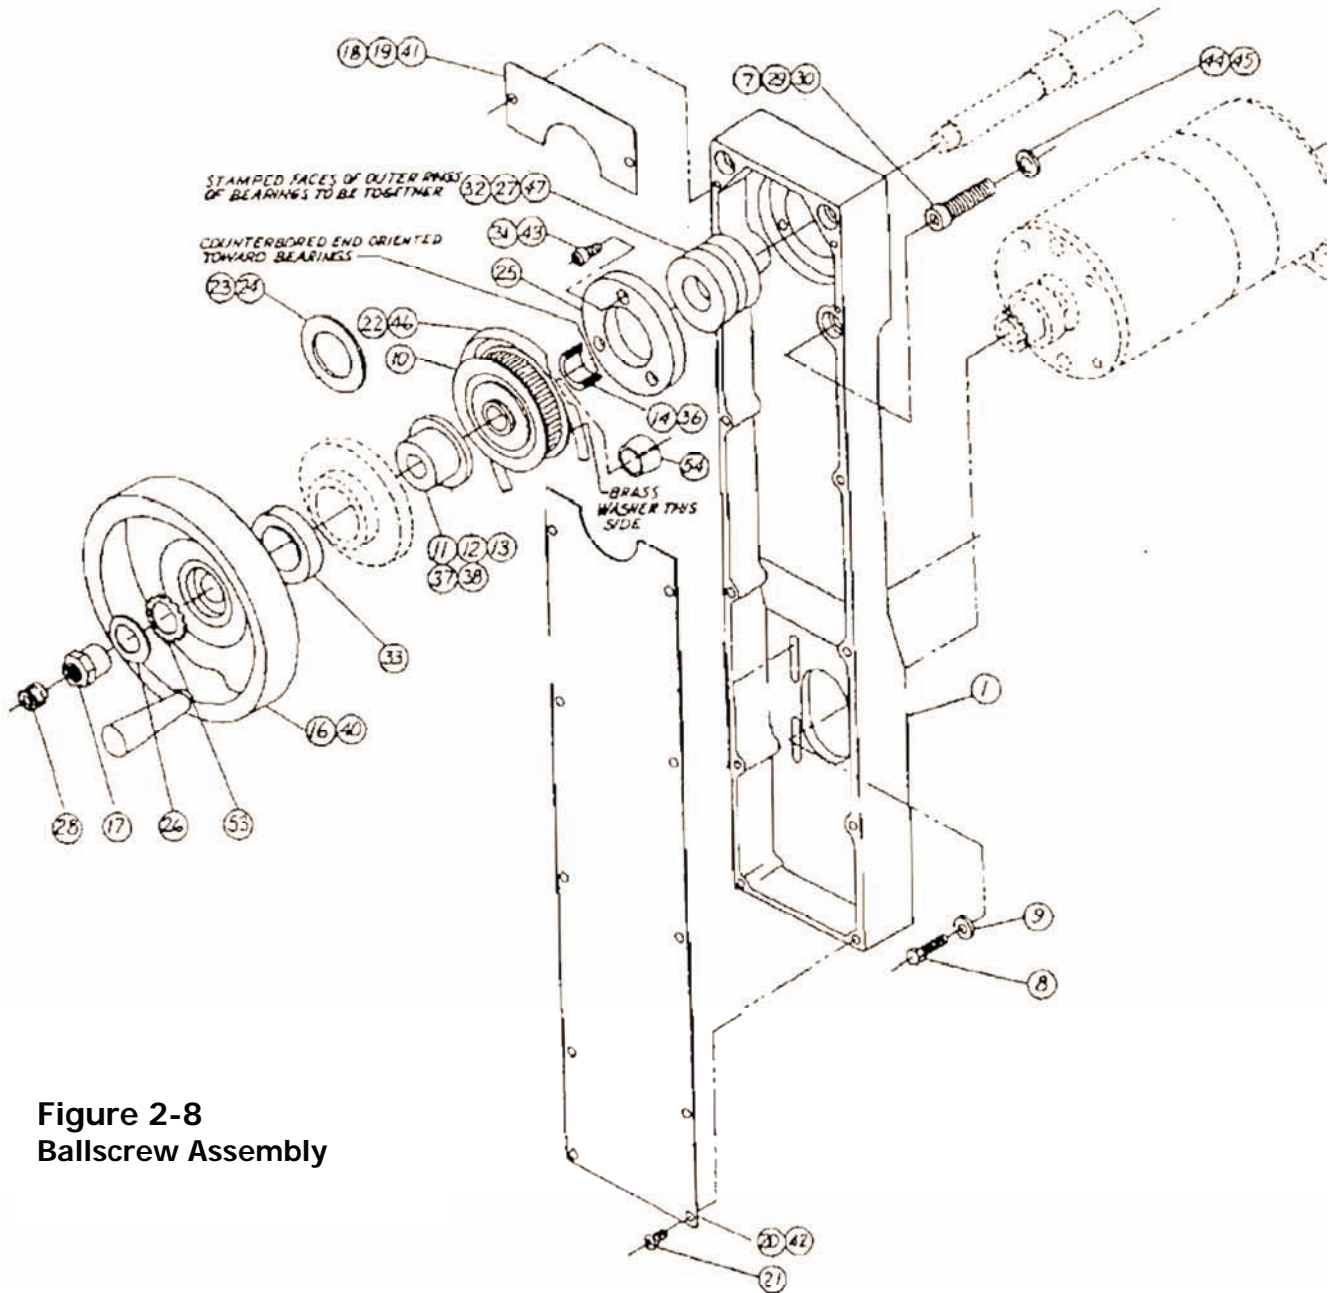

Figure 2-8
21. Install the Y-axis drive assembly as shown (figure 2-8) in the following order: